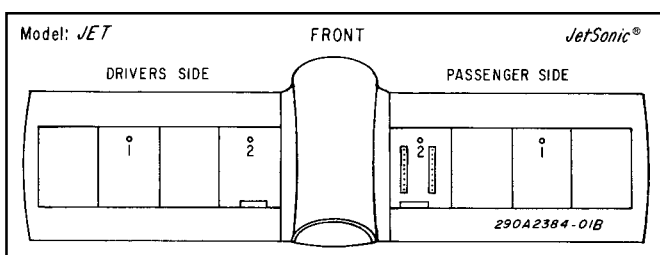

Figure 1.
1. The Model TK can be mounted in the following locations (figures 1 and 2):